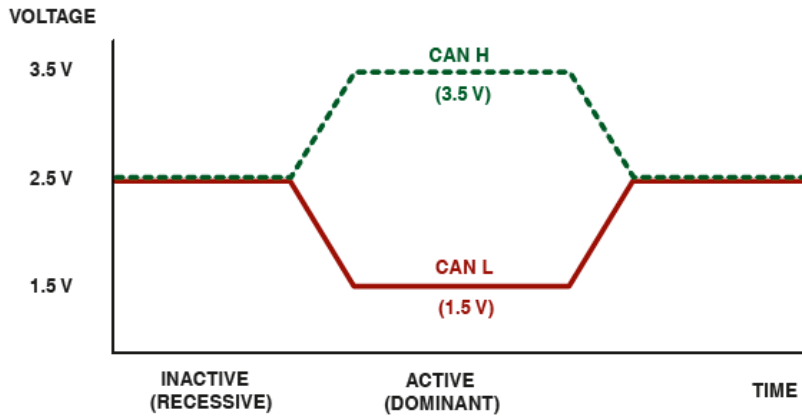

Figure 30. CAN voltage signals.
STEP 5 Use a digital storage oscilloscope to monitor the waveforms of the BUS circuit. Using a scope on the data line terminals can show if communication is being transmitted. CAN uses a differential type of module communication where the voltage on one wire is the equal, but opposite, voltage on the other wire. When no communication is occurring, both wires have 2.5 volts applied. When communication is occurring, CAN H goes up 1 to 3.5 volts and CAN L goes down 1 to 1.5 volts. Figure 30.